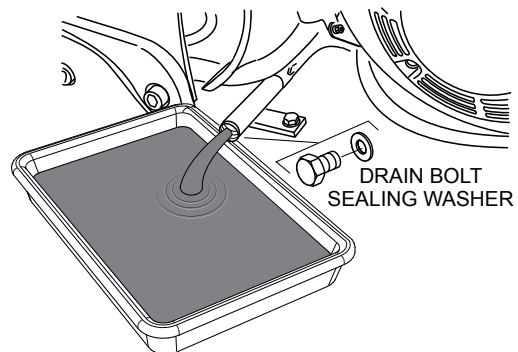

Figure 28. Draining Engine Oil
- Remove the oil drain bolt (Figure 28). and sealing washer and allow the oil to drain into a suitable container.